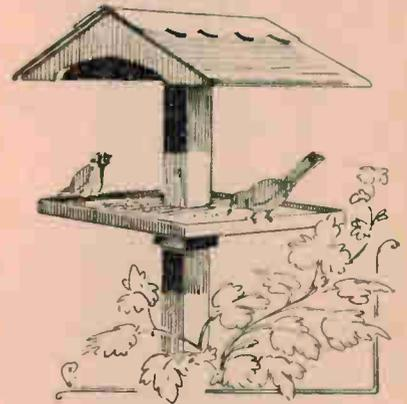
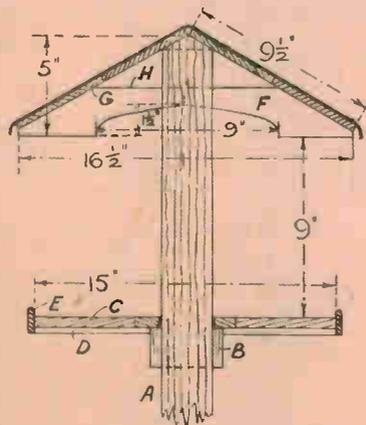
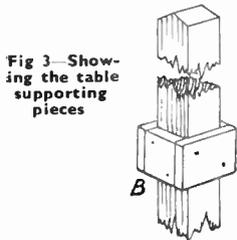

Fig. 1—The completed article
Fig. 2—A drawing giving necessary dimensions
Fig 3—Showing the table supporting pieces
Looking at Fig. 1 we see a spacious and simply-roofed 'deck' with no structural uprights to hinder the free movement of the birds. All the parts of the table are easily pencilled out and cut with an ordinary small household saw, helped in places with the fretframe containing a coarse blade. The general measurements of the table are given in Fig. 2 and here also all the parts are lettered for easy reference when making up. A good stout post, as (A), is the first consideration and it should be about 2½ ins. to 3 ins. square and should be long enough to go into the ground about 2 ft. The top of the post must be cut to the shape
The construction of the table itself may be commenced by taking in hand its under support, pieces (B) in Fig. 2 and detail Fig. 3. Four squares of wood about ½ in. thick are nailed to the post at the desired height. That would be from 4 ft. to 4 ft. 6 ins. from ground level to the top edges of the pieces (B). The 'deck' or platform will next be made from three ½ in. thick pieces of deal 15 ins. long as (C). In one of the pieces a hole to take the post must be cut with the fretsaw as
corners, or they may be mitred, which latter would look better in appearance. Nail the strips on so that they project  $\frac{1}{8}$  in. above and below the  $\frac{1}{2}$  in. floor, as seen in the cross section Fig. 2. The completed 'deck' is now put over the post and lowered down to rest on its supporting fillets (B).
To make a substantial fixing between roof and post, it will be necessary to nail or screw a crossbar to the latter as seen at (H) Fig. 2, the crossbar being 9 ins. long by 2 ins. wide and about  $\frac{1}{2}$  in. thick. Cut the bevels of this crossbar to 30 degrees, of course, so that the roof fits it exactly when screwed on. The exact position of the screws may be ascertained by careful measurement along the underside of the roof boarding inside, allowing for the width of post and half width of board (H) to arrive at